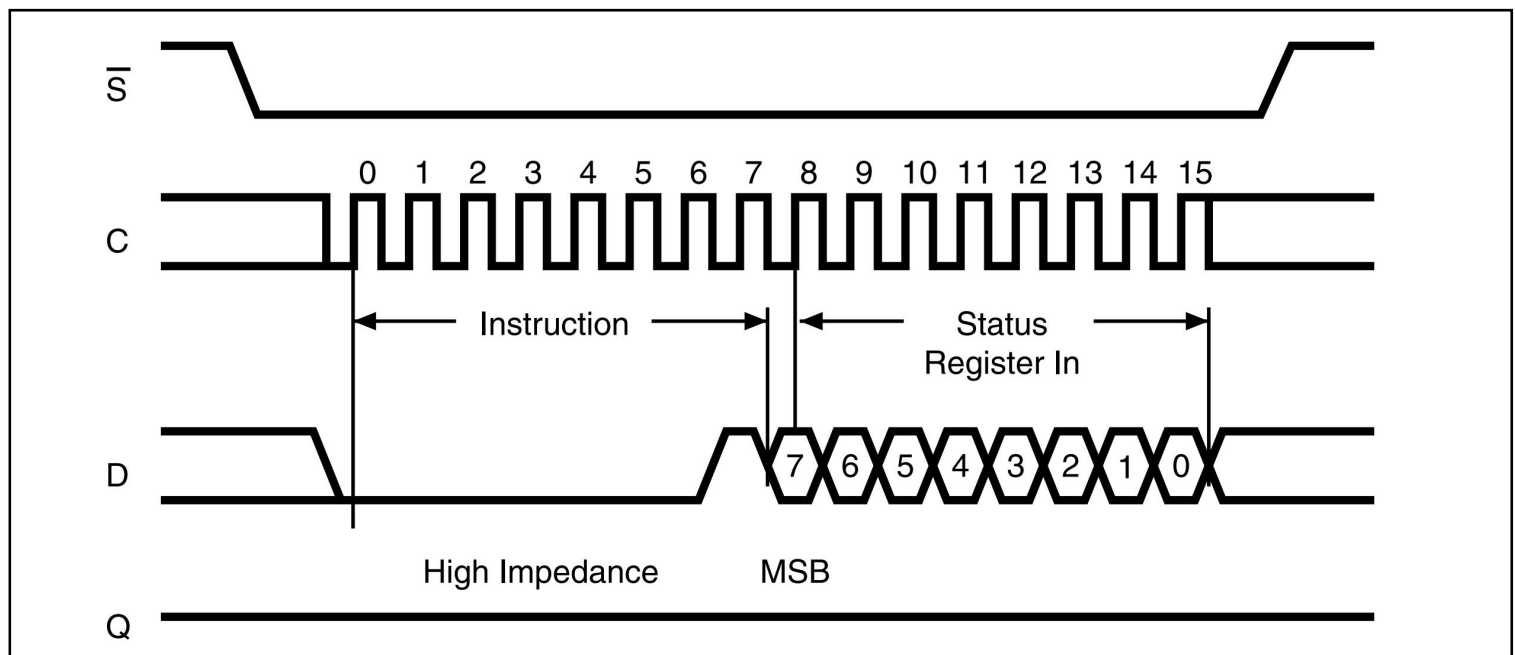

Figure 10. Write Status Register (WRSR) sequence
The Write Status Register (WRSR) instruction is entered by driving Chip Select ($\overline{S}$) low, followed by the instruction code, the data byte on Serial Data input (D) and Chip Select ($\overline{S}$) driven high. Chip Select ($\overline{S}$) must be driven high after the rising edge of Serial Clock (C) that latches in the eighth bit of the data byte, and before the next rising edge of Serial Clock (C). Otherwise, the Write Status Register (WRSR) instruction is not executed. The instruction sequence is shown in Figure 10.